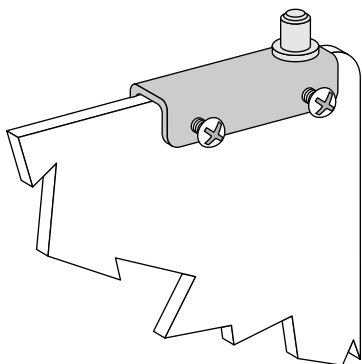

FIGURE 39
2. Loosen the screws at the hinge (see *Figure 39*). Straighten the door, then tighten the screws.